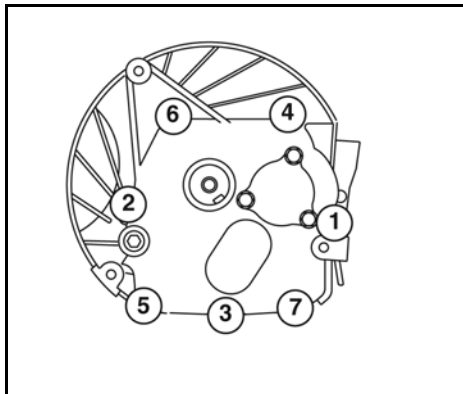
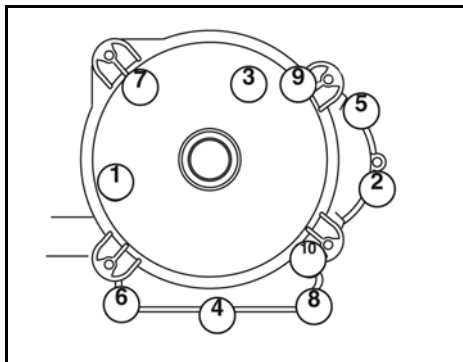

Figure 16
Figure 17
7. Install sump screws in order shown in Figure 16 and Figure 17. Torque to values listed in Section 12 - Engine Specifications.
**NOTE:** The screw at position four or position nine (Figure 16 or Figure 17) was factory coated with sealant. Coat screw with a non-hardening sealant, such as Permatex® 2 or equivalent, before installing.